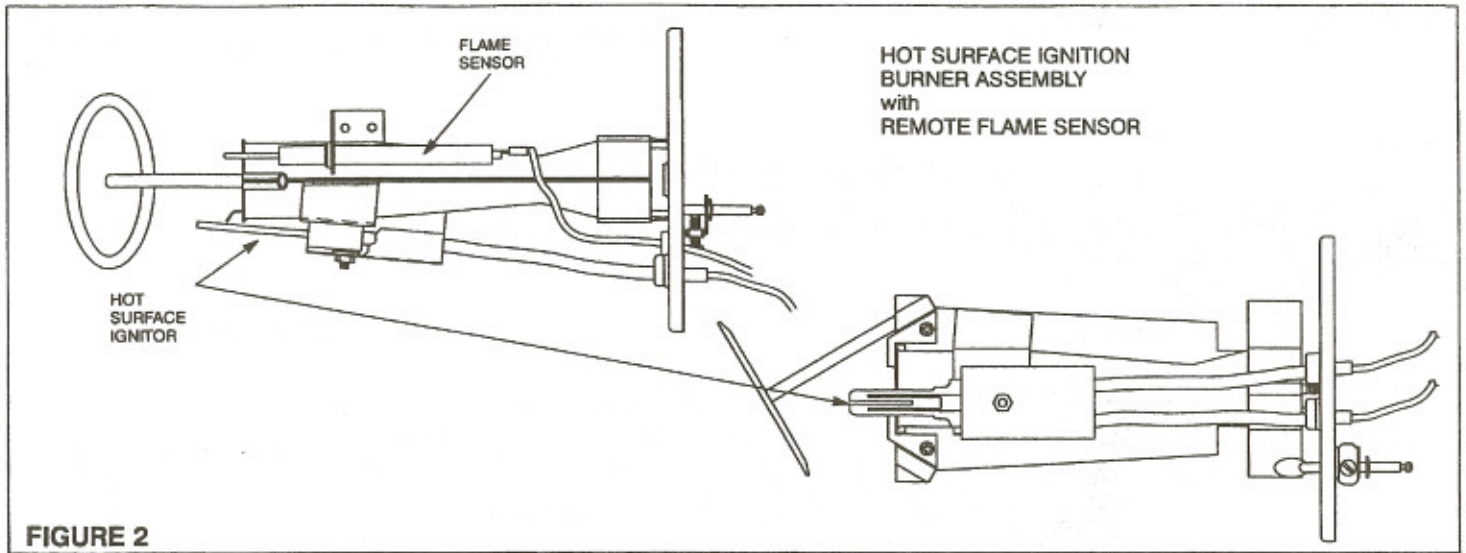

FIGURE 2
7. Install the new burner using the above steps in reverse. See Figure 2.